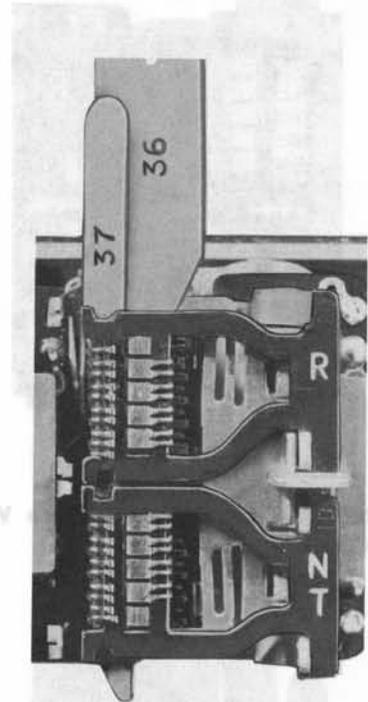

Fig. 7—Detail 37 Comb in Place With Detail 36 Lifter
3.14 Insert Detail 37 comb behind the cards and in front of Detail 36 lifter, with the teeth facing the lifted movable contacts as shown in Fig. 7. The comb automatically will come to rest on the stop and the movable contact springs will align in pairs between the teeth of the comb.